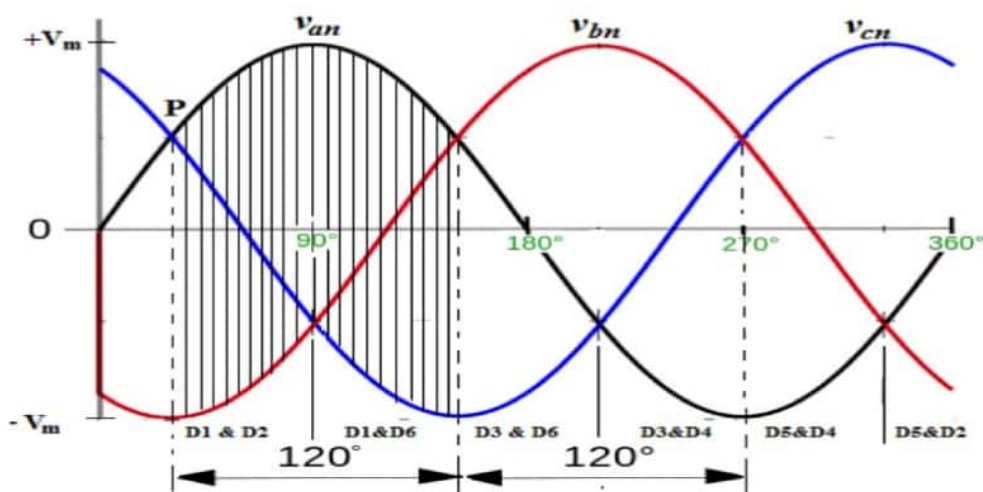

Fig.5.5 Each diode conducts for 120° .
- Each diode conducts for 120° in each supply cycle as shown in Fig.5.5.